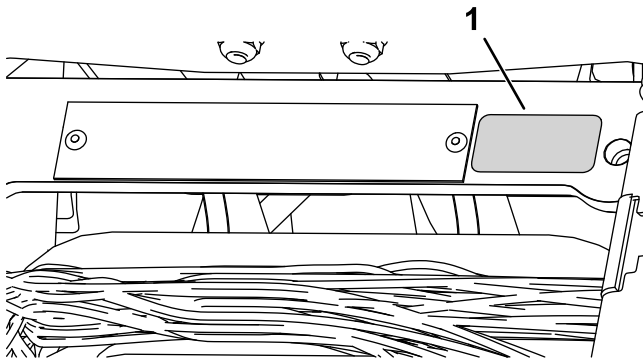

Figure 17
- Install the production year decal near the serial plate (Figure 17).